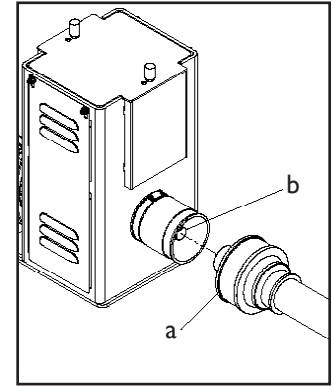

Figure 2: Attaching the PTO
2. Attach the PTO shaft (a) to the pump drive shaft (b) as shown (Figure 2).